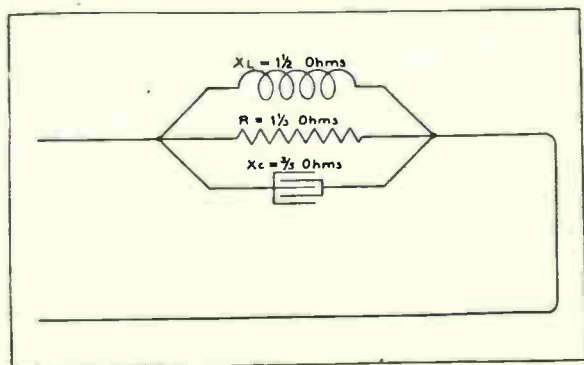

Fig. 1-10. This sketch shows inductance, resistance, and capacitance connected in parallel.
**Resistance, Inductance, and Capacitance in Parallel** Fig. 1-10 shows a circuit with inductance, resistance, and capacitance in parallel.
In the circuit shown in Fig. 1-10 the inductive reactance in ohms is larger than the capacitive reactance, but when the reciprocals of these values are obtained their relative sizes will be reversed, as shown by their subtraction in the formula.